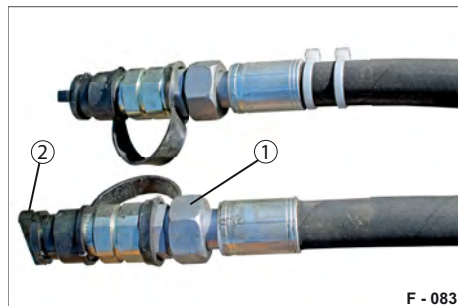

Fig. 31 Connecting hydraulic lines
- ▶ Remove the protective cap (Fig. 31/2).
- ▶ Make sure that the hydraulic line connection is clean (Fig. 31/1).